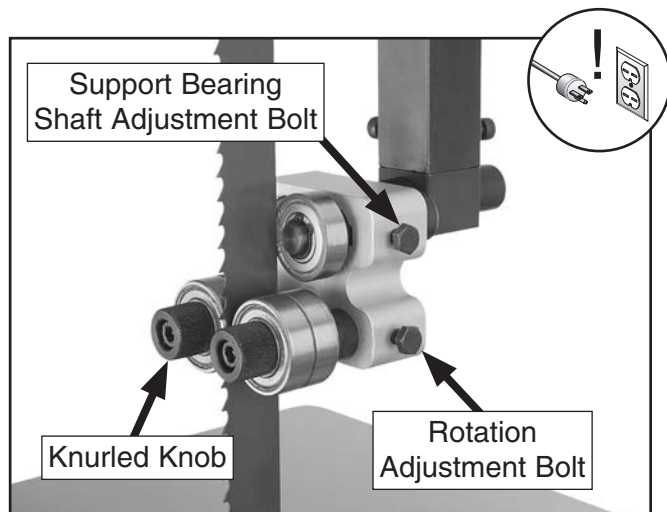

Figure 32. Front upper blade guide controls (blade guard removed for photo clarity).
4. Familiarize yourself with the upper blade bearing controls shown in **Figures 32–33**.
5. Loosen the rotation adjustment bolts on both sides of the blade (see **Figures 32–33**).
6. Rotate the knurled knobs (see **Figure 32**) to position the bearings as close to the blade as possible without touching it.